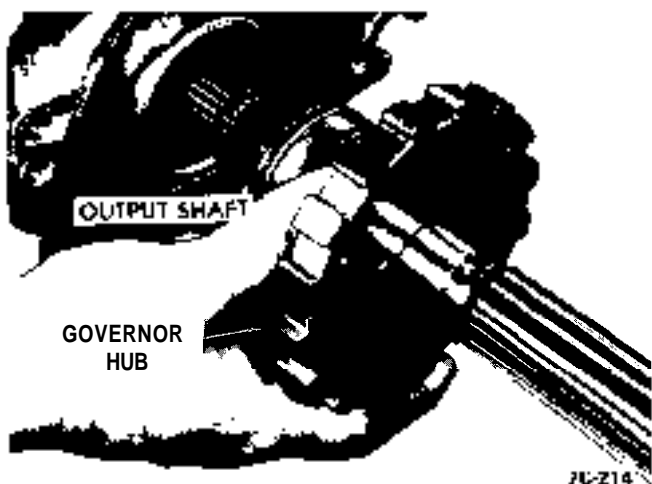

Figure 7C-218
3. Install snap ring over output shaft using snap ring pliers such as J-8059. See Figure 7C-219.